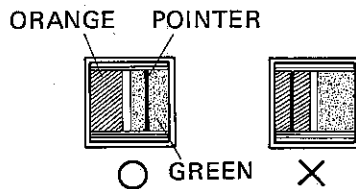

Fig. 3
2. Check the battery condition. The pointer of the meter should be deflect in GREEN area. If the pointer only moves as far as ORANGE area, the batteries are exhausted and must be replaced (Fig. 3).